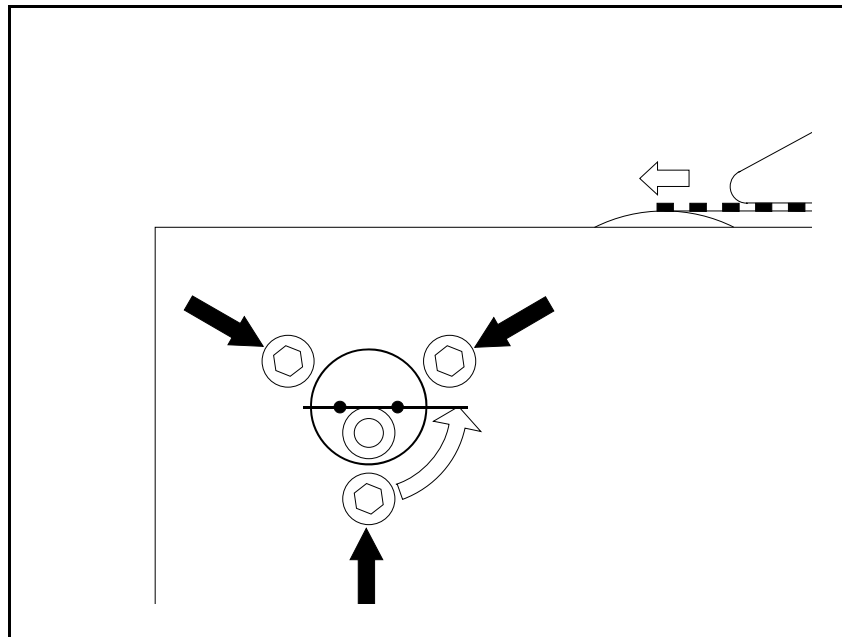

Figure 13-11. Magazine pick-up position, first feeder.
4. Adjust feeder 1 by loosening three screws, see Figure 13-11. Turn the eccentric disk with two holes as shown in the figure.
- Remove the magazine if inserted near the machine frame. Otherwise, it can be adjusted without being moved. If the eccentric disk is turned *counter-clockwise*, the pick-up position is moved forwards, see the figure 13-11.